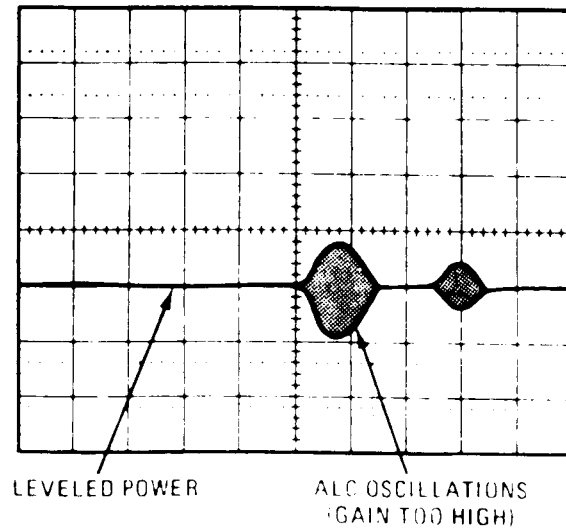

Figure 5. Leveled power trace showing ALC oscillations.
(29) Press **POWER LEVEL** key and enter data **-2 dBm** on keyboard.
(30) Adjust A4R11 (fig. 3) until ALC oscillations appear on oscilloscope trace as shown in figure 5.
(31) Observe TI output on oscilloscope display and readjust A4R11 to remove all ALC oscillations.